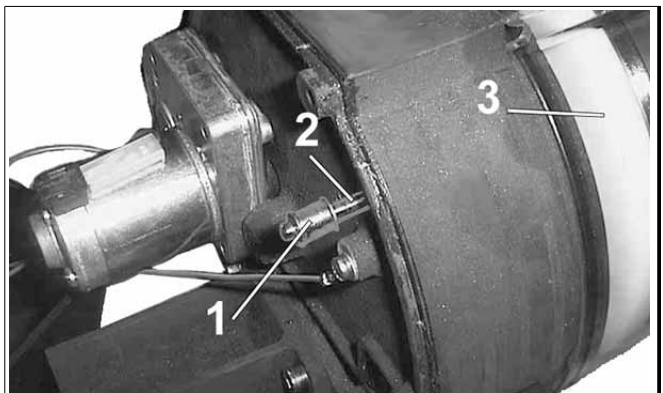

Fig. 8-1 Parts of the low-level control (QLS301)
- The follower plate 3 (Fig. 8-1) of the reservoir moves the pin 2 with the solenoid 1 ahead of the sensor on the printed circuit board and initiates an external low-level signal.